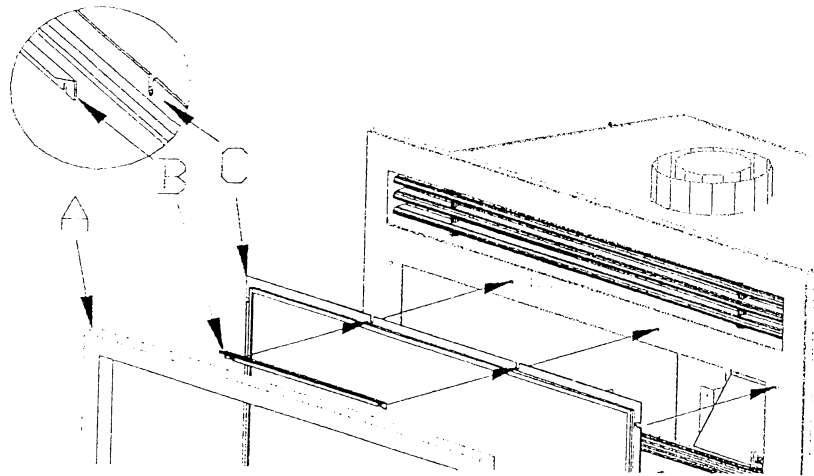

Figure 13
Referring to figure 13:
- a) Place the trim clip over the glass clip as shown in figure 13.